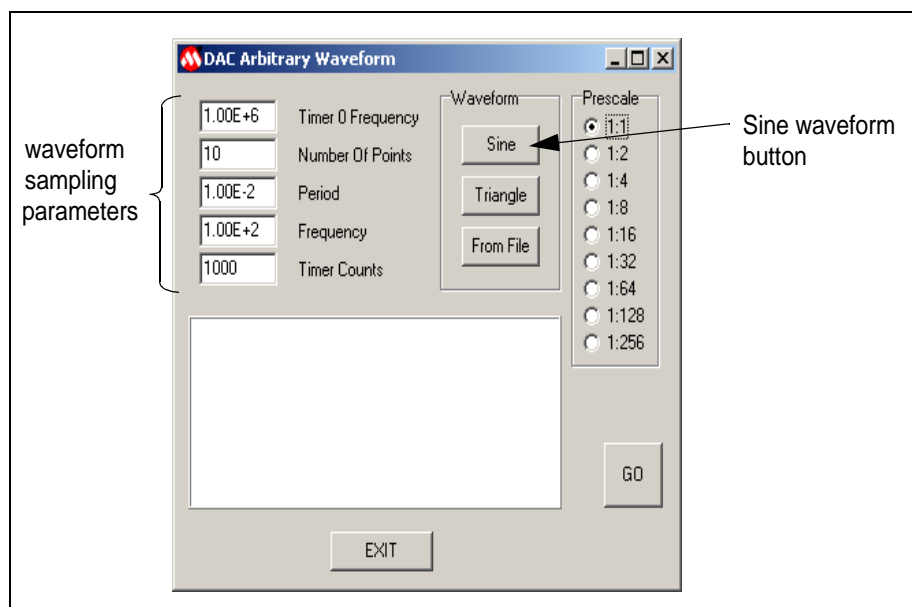

Figure 3.7: Arbitrary Waveform Dialog Box
11. Select the GO button. The following message appears, as shown in Figure 3.7: